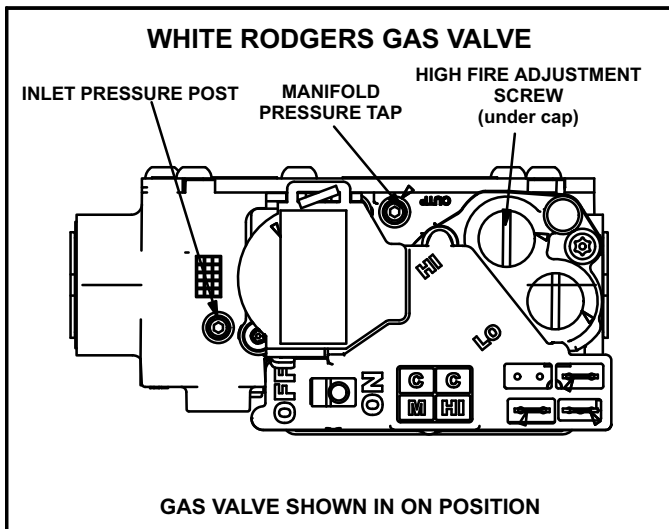
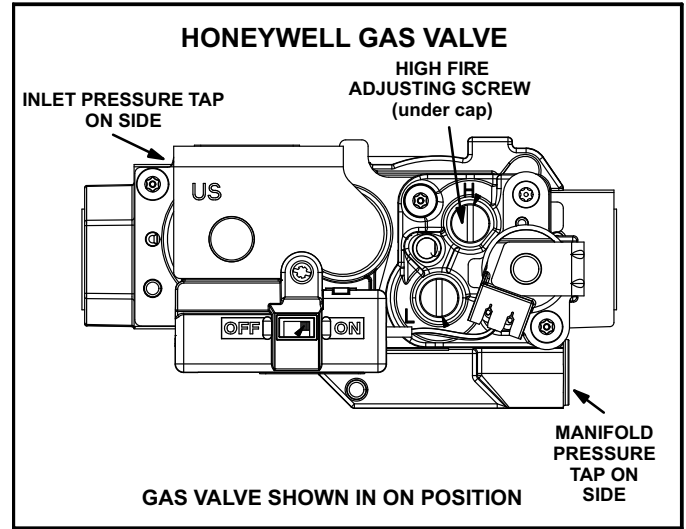

FIGURE 17
FIGURE 18
The valve (figure 17 or 18) is internally redundant to assure safety shut-off. If the gas valve must be replaced, the same type valve must be used.
- 6 - Turn switch on gas valve to **OFF**. Do not force. See figure 17 or 18.
- 8 - Move switch on gas valve to **ON**. Do not force. See figure 17 or 18.
An inlet post located on the gas valve provides access to the supply pressure. See figure 17. Back out the 3/32 hex screw one turn, connect a piece of 5/16 tubing and connect to a manometer to measure supply pressure. See table 19 for supply line pressure.
- 1 - Connect test gauge to manifold pressure post (figure 17) or tap (figure 18) on gas valve.
- 4 - If necessary, make adjustments. Figures 17 and 18 show location of high fire and low fire adjustment screw.